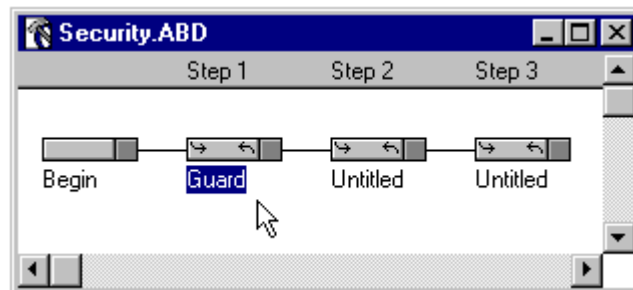

Figure 3-13 Step 1 Input Handler Named
12. Type **Guard** in the name box. Press the computer's <Enter> key to close the name box. The Input Handler is now named **Guard** (Figure 3-13).